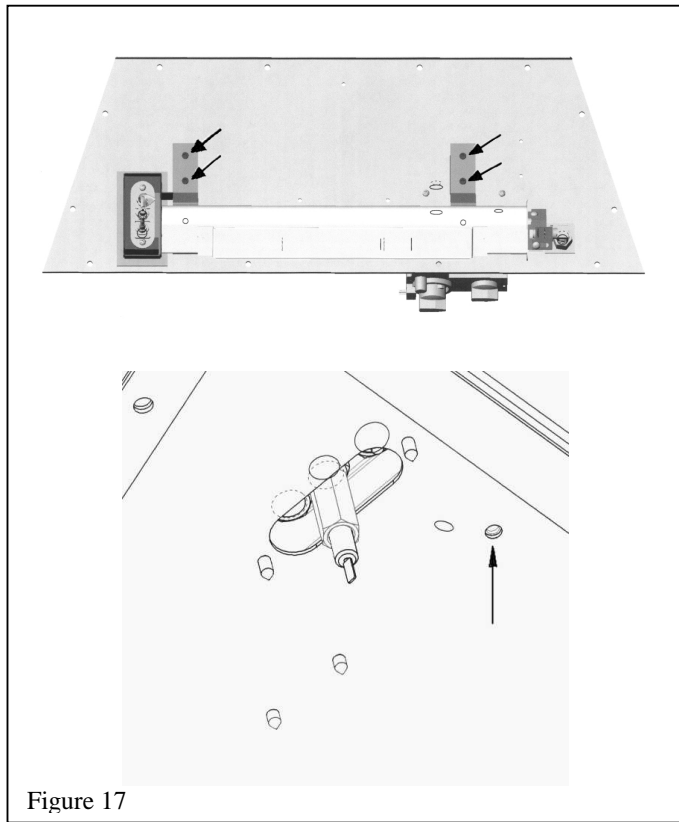

Figure 17
4. Detach the burner unit by removing five screws, four on top face and one on the underside. See figure 17.